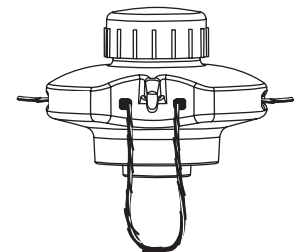

Fig. 14
2. Push the ends through until they stick out of the sides of the head (Fig. 14).